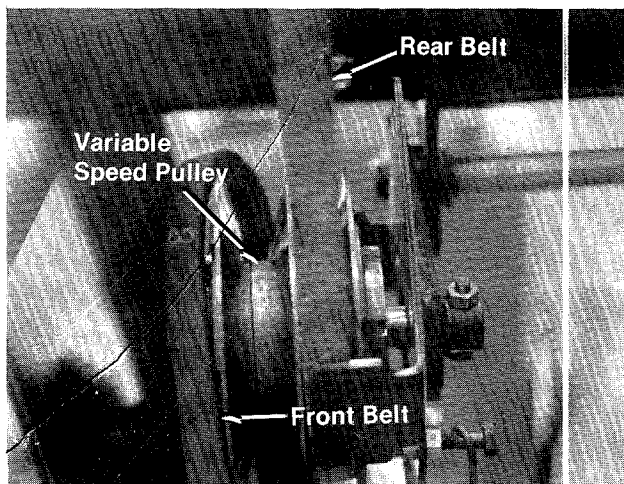

FIGURE 27.
7. Unhook the rear belt from the variable speed pulley. See figure 27.